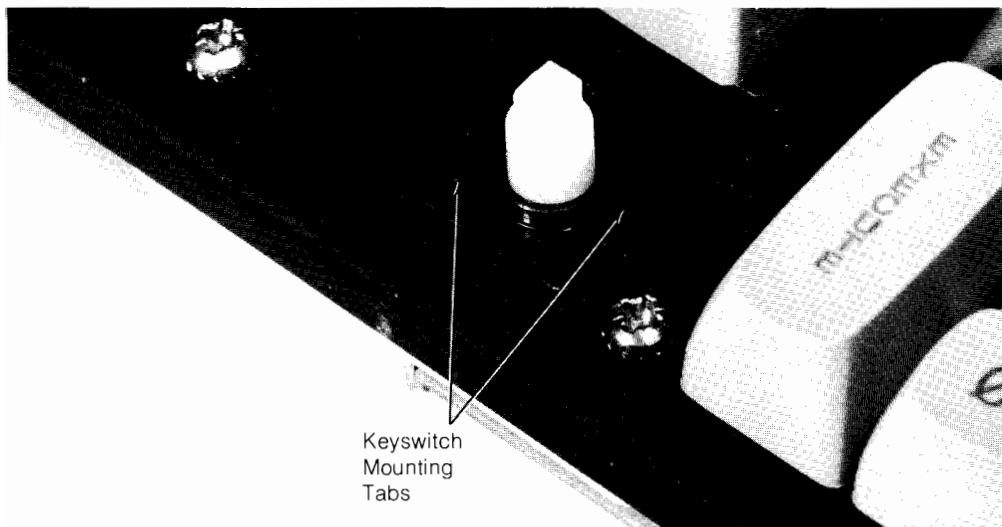

Figure 3-21: Removing a Key Switch
- Press in on the two tabs (Figure 3-21) that hold the key switch in place and pull the switch up out of the switch mounting plate.